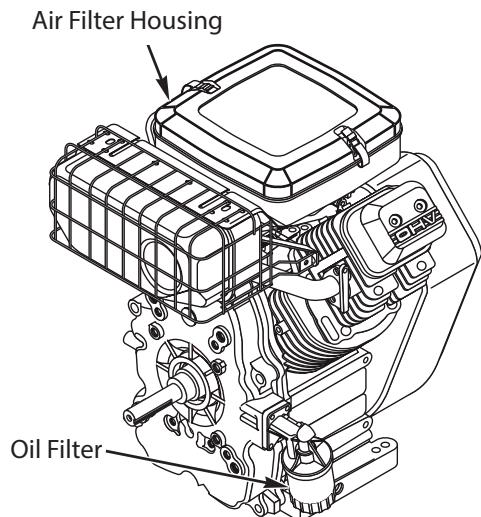

Figure 16 - Engine Filters
- Service the engine according to the Engine Maintenance Manual. The engine is equipped with a replaceable oil filter. Reference Figure 16 on page 26.